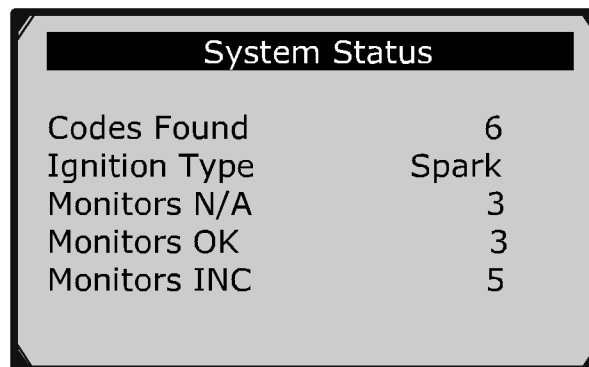
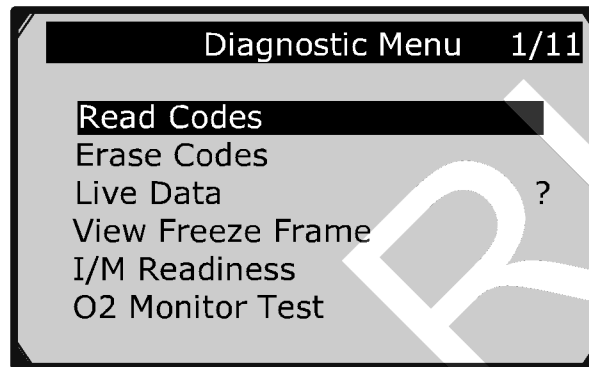

Figure 5.2
Figure 5.4
- 9) View a summary of system status (MIL status, DTC counts, Monitor status) on screen. (Figure 5.2) Wait a few seconds or press any key for **Diagnostic Menu** (Figure 5.4) to come up.
- 1) Use the **UP/DOWN** scroll buttons to select **Erase Codes** from **Diagnostics Menu** and press the **OK** button. (Figure 5.4)
- 1) To view live data, use the **UP/DOWN** scroll button to select **Live Data** from **Diagnostic Menu** and press the **OK** button. (Figure 5.4)